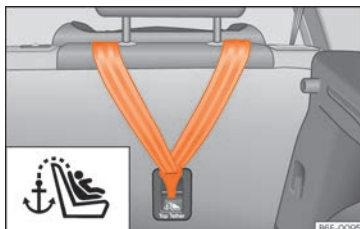

Fig. 29 Back of the rear seats: Top Tether securing rings.
- Slide the strap and secure it properly with the anchorage of the backrest » **Fig. 29**.